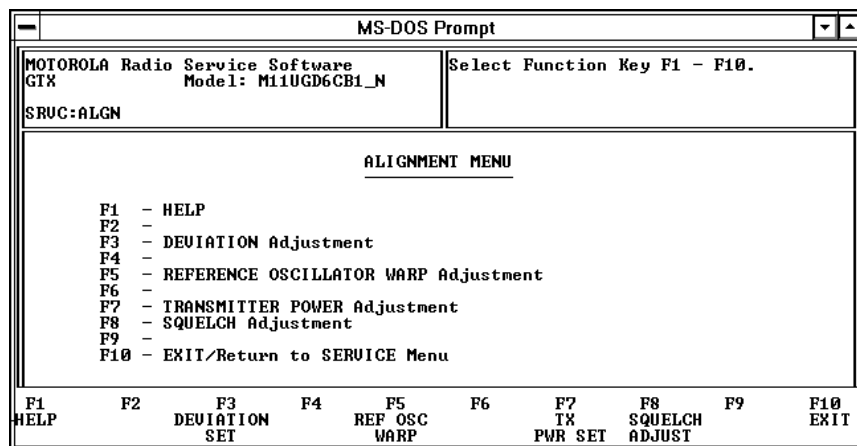

Figure 11.1 – Alignment Menu
6. From the "Main Menu", press F2, " SERVICE Alignment, Service Aids, Board Replacement". The "Alignment Menu" is shown in Figure 11.1.